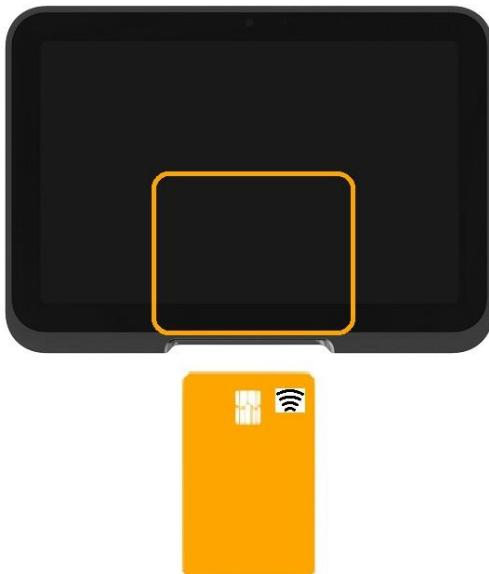

Figure 6
1. Place a contactless card to shown on the SFO1 display contactless logo (Figure 6).